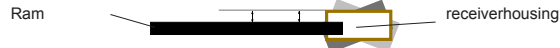

Fig. 18/1
2. using the smallest bending punch, the receiver element E1+Z (AKAS®-5 see fig. 18/1) are covered by the punch at the highest range position of the support.
3. using the highest bending punch, the receiver element E1+Z (AKAS®-5 see fig. 18/1) can still be positioned correctly at the lowest position
AKAS®-5 Fig. 18/3